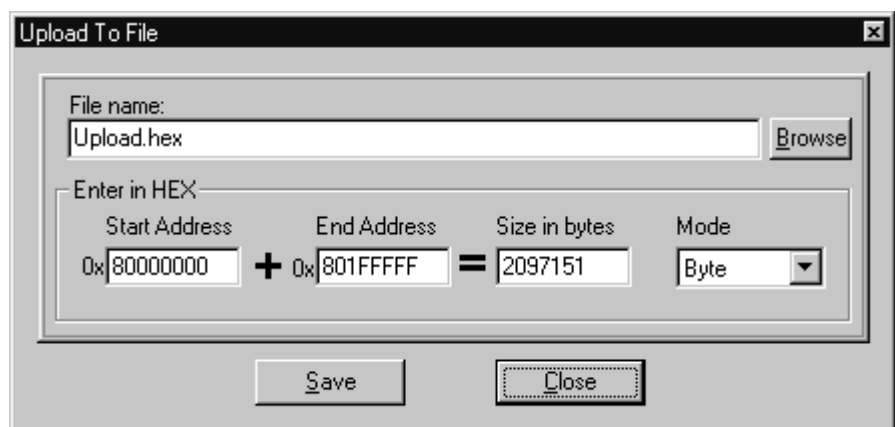

Figure 3-2 Upload To File Dialog Box
11. To upload FLASH memory contents to a file in your PC, click the **Upload** button. The **Upload To File** dialog box appears, as shown in Figure 3-2.